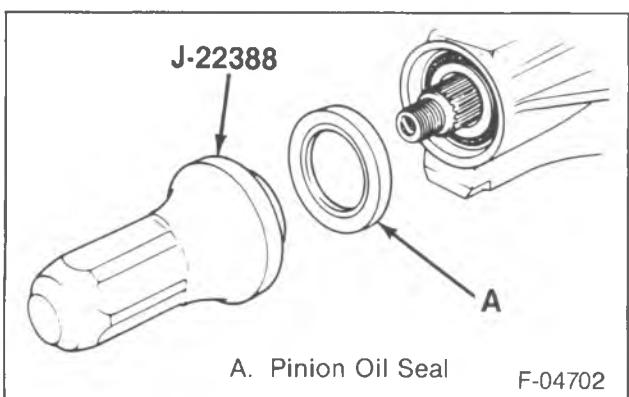
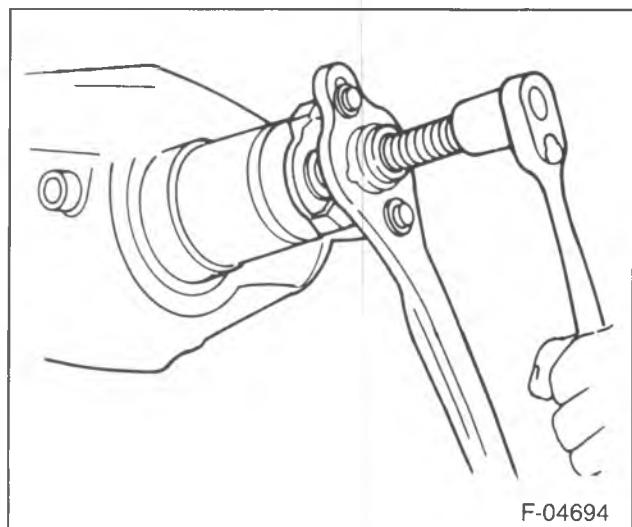

Figure 14—Installing the Pinion Oil Seal
Figure 15—Installing the Pinion Flange
- 1. The pinion inner bearing (5) using J 8609-01.
- 2. A new collapsible spacer (4).
- 3. Pinion (7) to the axle housing.
- 4. Outer pinion bearing (39) onto the pinion using J 5590.
- 5. Pinion oil seal (38) using J 22388 (figure 14).
- 6. Pinion flange (37) to the pinion by tapping it with a rawhide hammer until a few threads show through the pinion flange.
- 7. Pinion washer (36) and a new nut (35) while holding the pinion flange with J 8614-01 (figure 15).